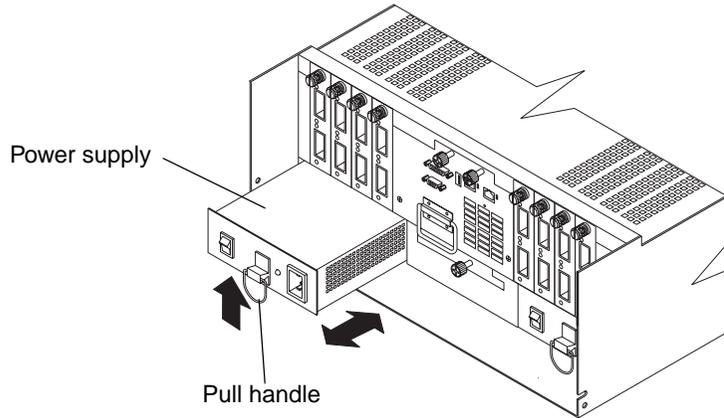

Figure 27. Removing and installing a power supply CRU
- 2 Using Figure 27 on page 48 as a guide, remove the failed power supply.
- 3 Unpack and install the new power supply, as shown in Figure 27. Using the pull handle, push the power supply into the slot until it locks into place.